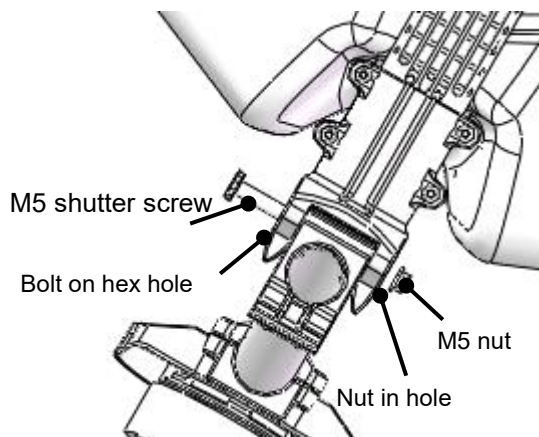

Figure 10
- 4) Install the M5\*49 plug screw from the hexagon side of the 6mm hole on fuselage arm joint, see figure 10.